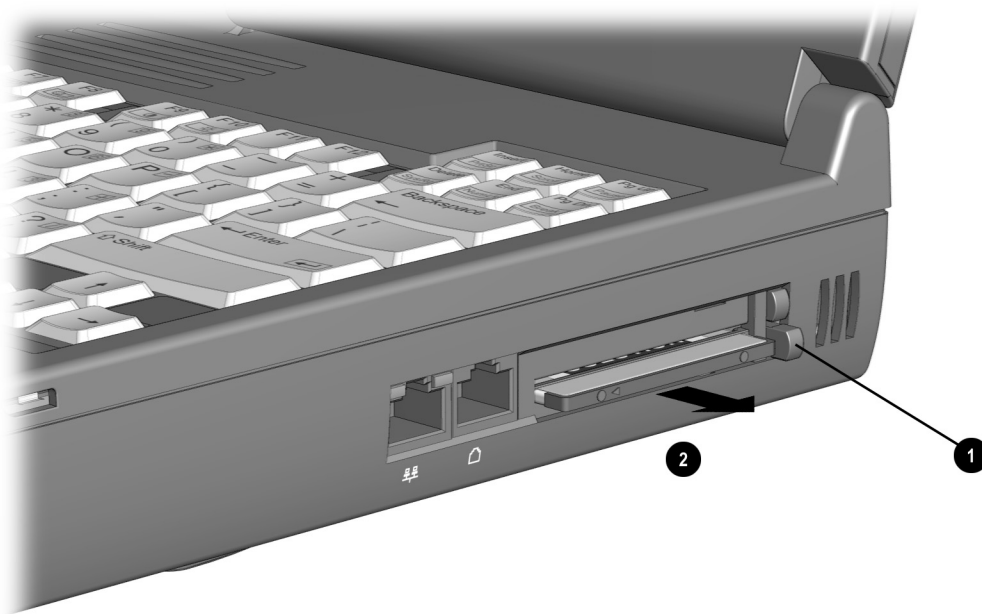

Figure 5-22. Removing a PC Card
2. Push the PC Card eject button **1** that corresponds to the slot containing the PC Card to be ejected. The eject button extends (Figure 5-22).